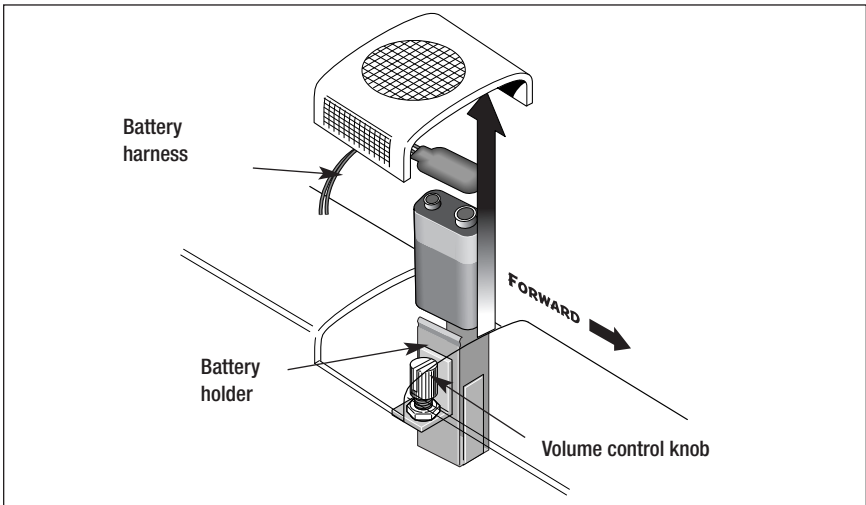

Figure 3. Battery installation
While the RailSounds sound system is powered through the track, we recommend that you install a nine-volt alkaline battery in the locomotive to prevent the sound system from shutting down during track power interruptions (for example, at a switch or a dirty section of track). Follow these steps and refer to Figure 3 as you install the battery.
To silence the motor sounds, slide the RailSounds 5.0 sound system switch located on the underside of the locomotive to the SIGNALSOUNDS position before you power up the locomotive or after the locomotive has been powered down for a minimum of ten seconds. The horn and bell sounds will still be active. To adjust the volume, use the volume control knob located under the rear roof-top hatch of the powered A-unit locomotive. Refer to Figure 3 on page 10.
- **Shutdown sequence.** When you turn off track power, you have two seconds to power up again after you hear the reverse unit reset sound. If you do not restore power, you will hear the realistic diesel shutdown sequence. Because track power is off, a nine-volt battery is required for this sequence to function. Refer to Figure 3 on page 10.
- **Shutdown sequence.** When you turn off track power, you have two seconds to power up again after you hear the reverse unit reset sound. If you do not restore power, you will hear the realistic diesel shutdown sequence. Because track power is off, a nine-volt battery is required for this sequence to function. Refer to Figure 3 on page 10. You may also trigger the shutdown sequence without powering down the track using the **AUX1, 5** command when the locomotive is stopped and the diesel RPM sounds are at their lowest level.